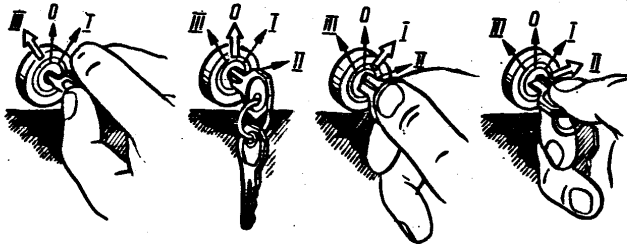

Fig. 10. Positions of Ignition Key:
- 13 - ignition switch. Positions of the key are shown in Fig. 10;